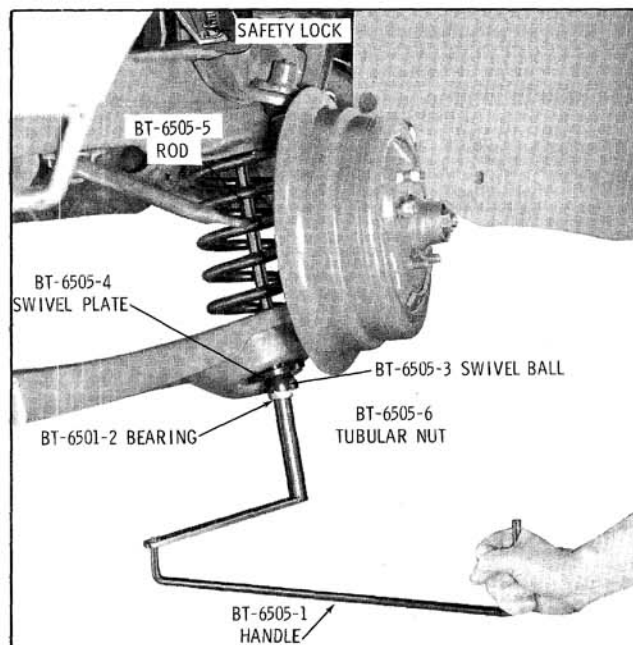

Fig. 9-20 Front Coil Spring Compressor
6. Install Tool BT-6505 as shown in Fig. 9-20 and compress spring slightly to permit removal of lower control arm bushing bolts.
2. Install Tool BT-6505 and compress spring until lower control arm bushing bolts can be installed. (Fig. 9-20)
6. Install Tool BT-6505 as shown in Fig. 9-20 and compress spring slightly to permit removal of lower control arm bushing bolts. Leave ball joint connected to steering knuckle.